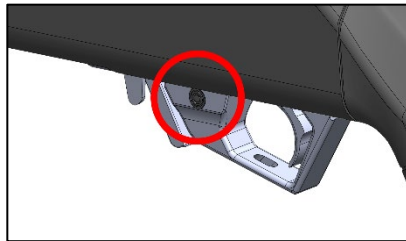

Figure 10 – SAFETY ON/FULL SAFE
- Place the safety button into the “FULL SAFE” position with the red band hidden – Figure 10.